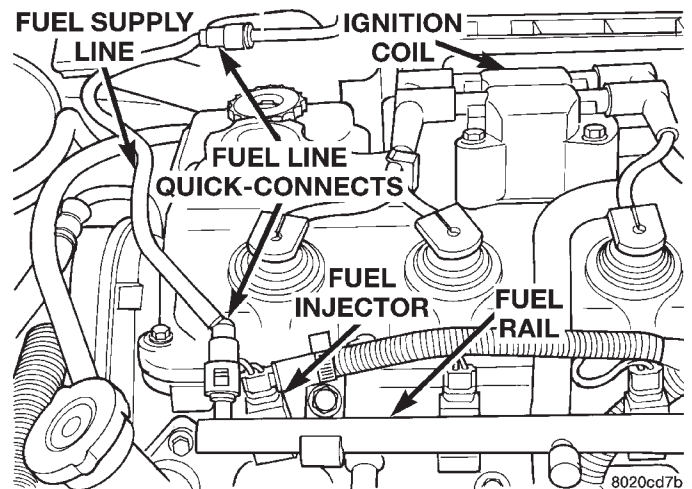

Fig. 40 Fuel Injectors—2.4L Engines
(8) Inspect the fuel injector electrical connections (Fig. 40). Use the DRB Scan Tool to verify connection on a 2.5L engine.